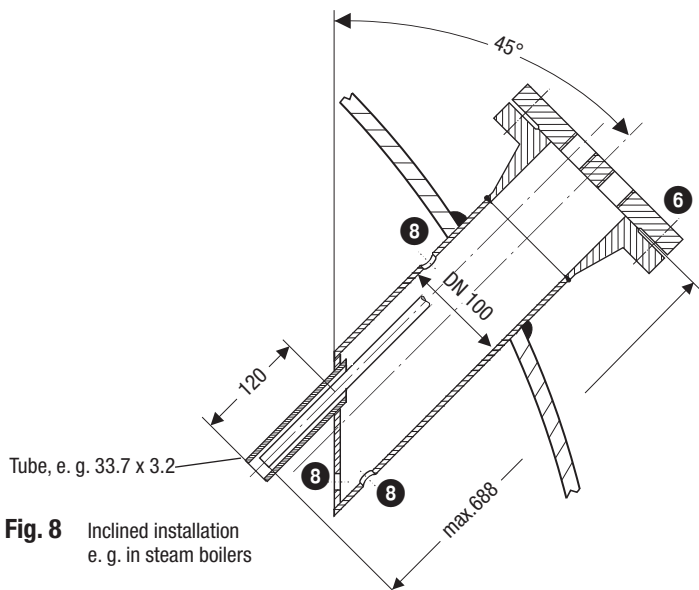

Fig. 8 Inclined installation
- The angle of inclination of the electrode must not exceed 45°, with the length of the electrode being limited to 688 mm. **Fig. 8**